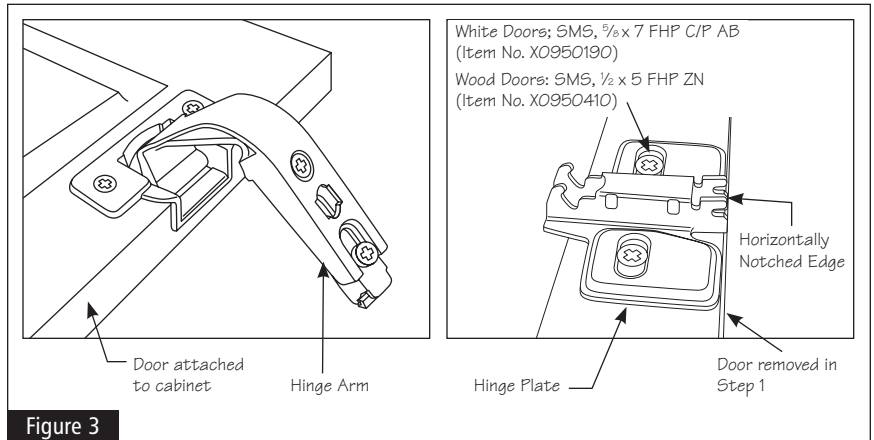

Figure 3
- Using the attachment screws that were removed in STEP 2, attach the new hinge arm to the door that is still attached to the cabinet and attach the new hinge plate to the door that was removed in STEP 1. See Figure 3.